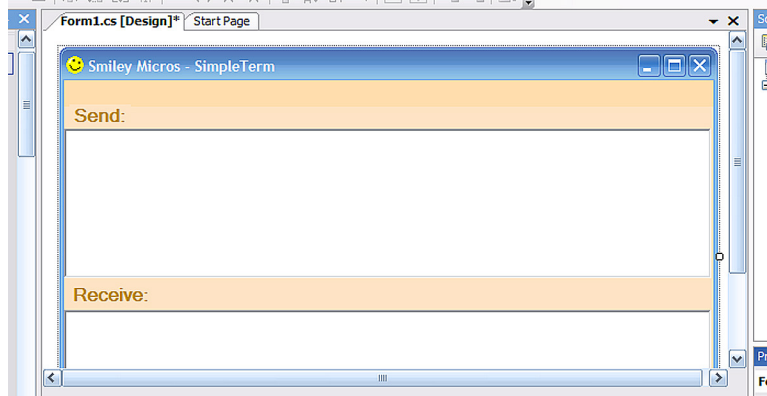

Figure 14: GUI with makeup
- Now you've just got to admit that a little makeup helps. (Figure 14: GUI with makeup)